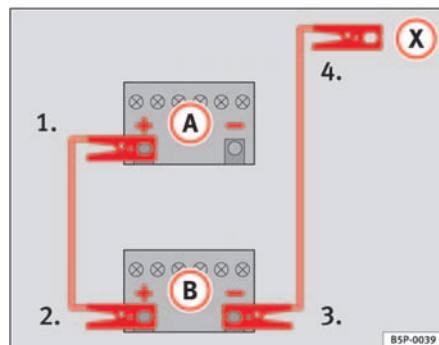

Fig. 201 How to connect the jump leads
In ⇒ fig. 201, the flat battery is **A** and the charged battery **B**.
1. Connect one end of the red jump lead to the positive ⇒ fig. 201 **+** terminal of the vehicle with the flat battery ⇒ ⚠.